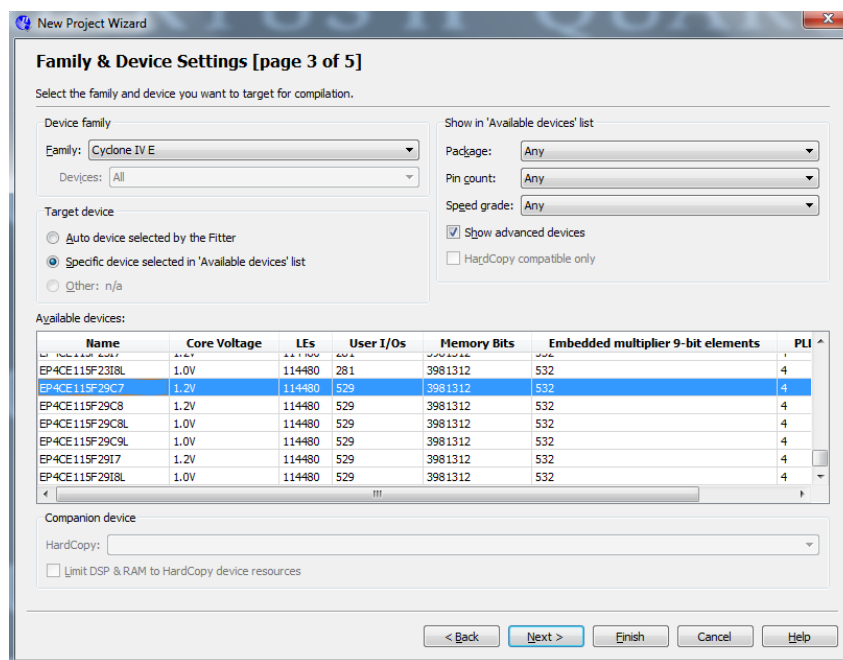

Figure 2.18.: Target FPGA board settings in Quartus II
4. in the Family and Device settings form, select the exact same configuration as shown in Figure 2.18. Then press Finish;